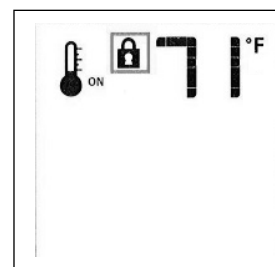

Figure 8.25. Lock ON.
- To activate the Lock, press the Mode key and UP Key at the same time. Fig. 8.25.